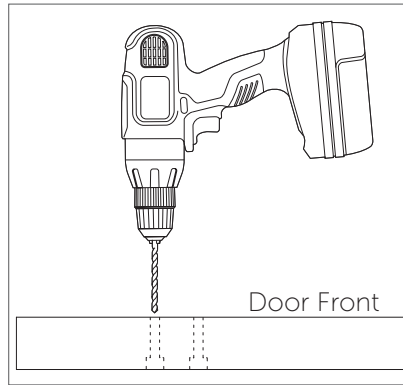

Figure 5
8. Turn the door over, returning it to the face-up position. Drill all the way through the pilot holes using a drill with a 1/4" drill bit. (Figure 5).